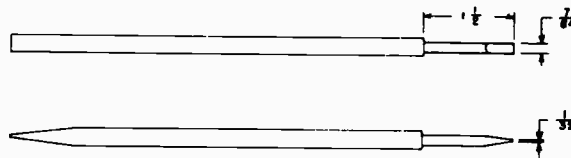

Fig. 10 Alignment Tool
3. Using a non-metallic alignment tool (See Fig. 10) peak the hi-band oscillator slug L101 for best picture detail and sound quality.